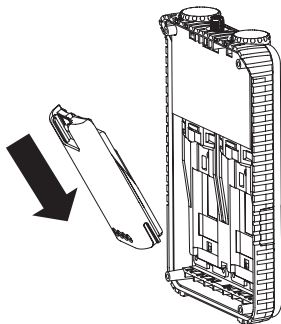

Figure 4. Installing Li-Ion Batteries into the Repeater Back Housing
5. Once you have removed the repeater battery frame, slide down a Li-Ion battery (with the Motorola logo side up on the battery pack), until it fits the tabs at the bottom of the battery into the slots at the bottom of the repeater’s back housing. Refer to “Figure 4. Installing Li-Ion Batteries into the Repeater Back Housing” below.